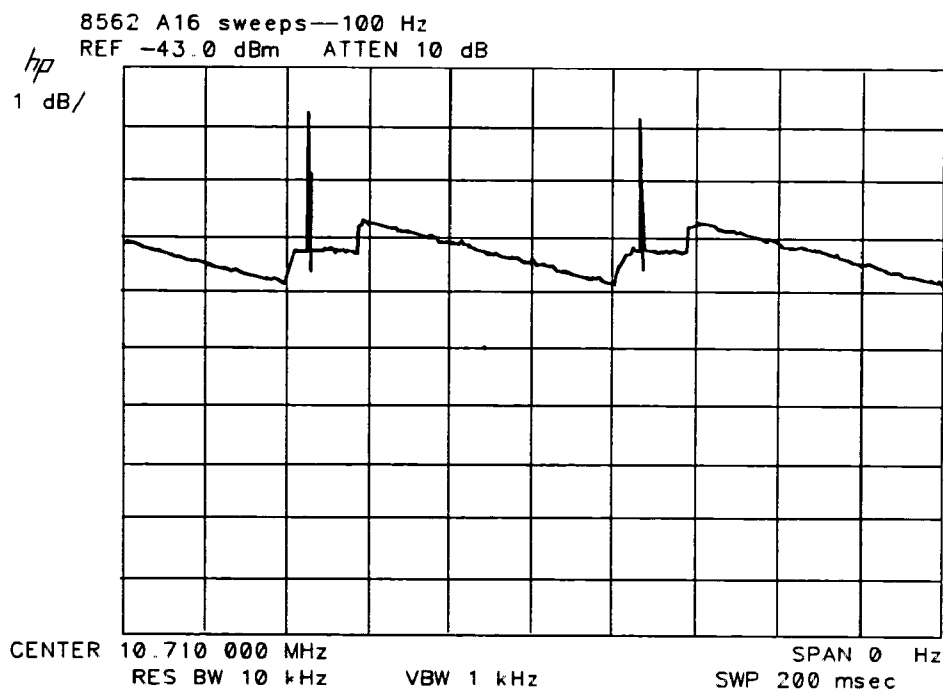

Figure 9-20. Failed Crystal Set Symptoms
17. Severe failures (slope error >30%) and subtle 3 kHz Resolution Bandwidth errors (<30%) indicate a problem with A16U6, U7, U8, U11, U12, and CR12. A display resembling Figure 9-20 indicates a failed A5 Assembly crystal set if the 100 Hz bandwidth is too wide